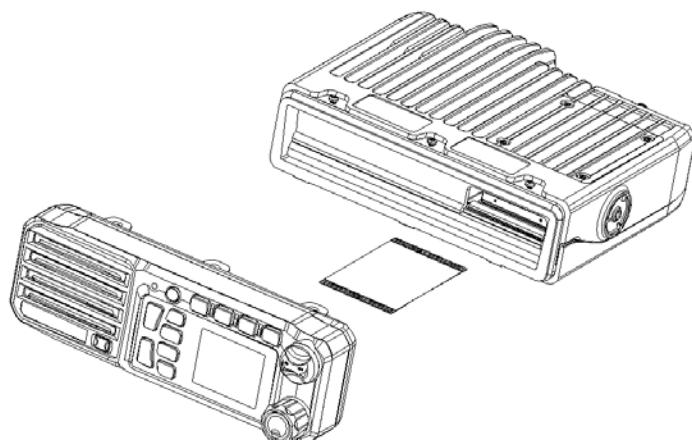

Figure 5.2
- (2) Remove the front panel from the main body;
(3) Disconnect the FPC as per figure 5.2.